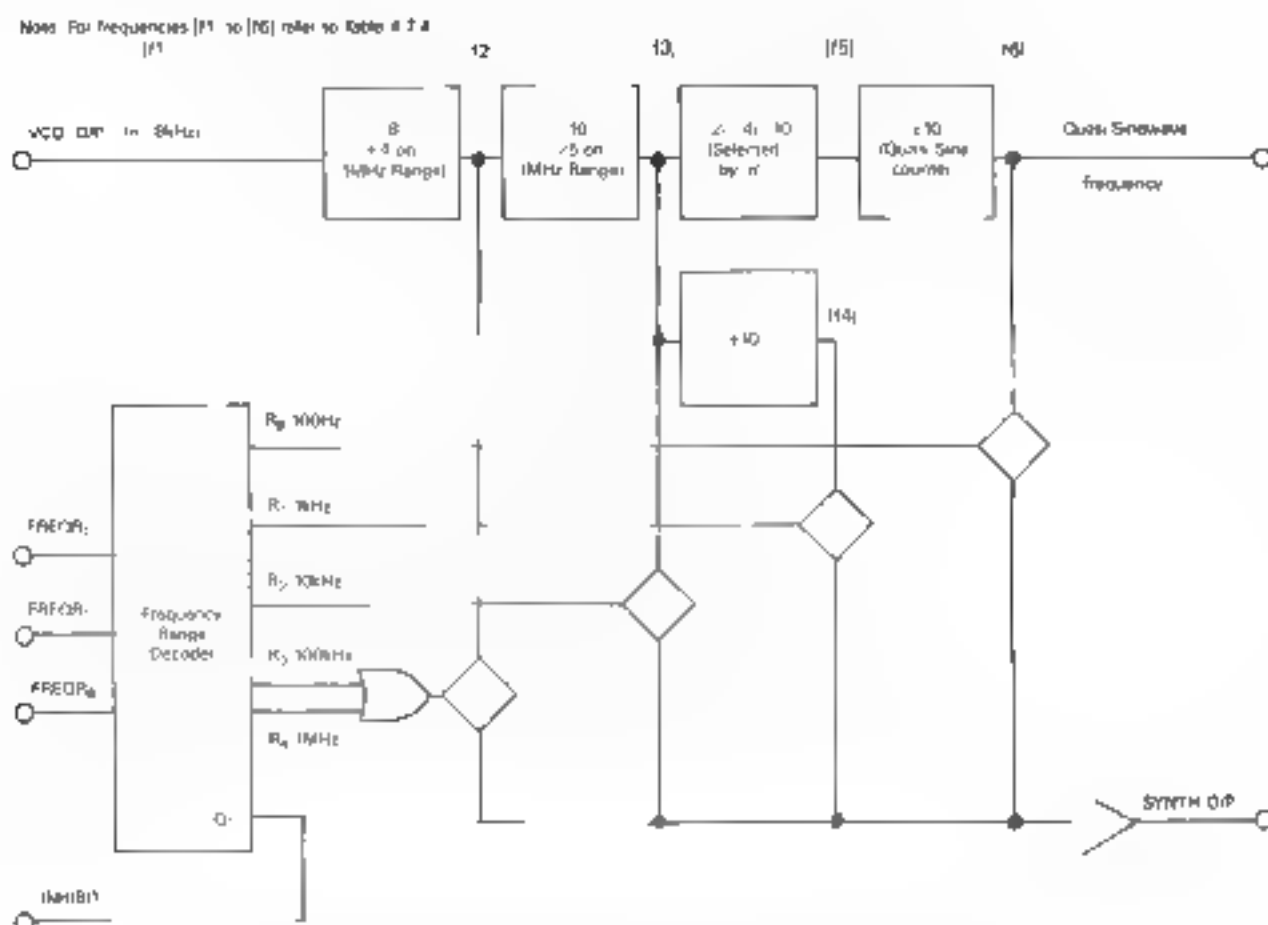

FIG. 8.3 FREQUENCY DIVIDERS BLOCK DIAGRAM
(Fig 8.3)
Fig. 8.3 and Table 8.2.
8.1.3.3 Frequency Synthesis for the Quasi-Sinewave Generator (Fig. 8.3 and Table 8.3)